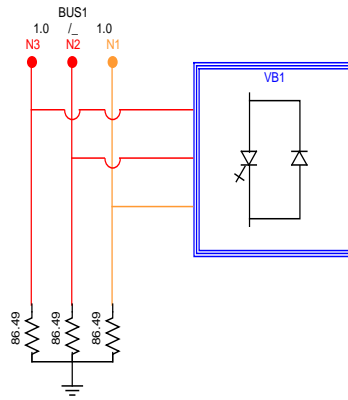

Figure 8
(3) Label the 'Main Network Side' of the interface transformers using a large time-step bus label. (4) Duplicate large time-step bus label outside the VSC Bridge Box and connect a resistive load as show Figure 8. (5) Compile the case and run it. *Does it work as expected?*